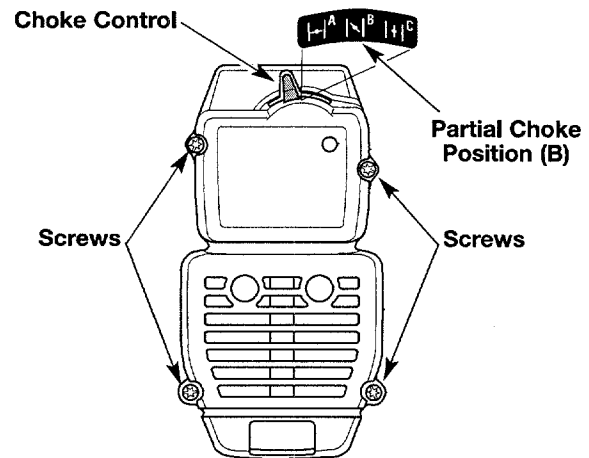

Figure 23
1. Place the choke control in the PARTIAL choke position (B).
**NOTE:** The choke control must be in the PARTIAL choke position (B) to remove the air filter/muffler cover. See Figure 23.
2. Remove the four (4) screws securing the air filter/muffler cover. See Figure 23. Use a flat blade or # T20 Torx bit screwdriver.
**NOTE:** The choke control must be in the PARTIAL choke position (B) to install the air filter/muffler cover. See Figure 23.
9. Insert the four (4) screws into the holes in the air filter/muffler cover and tighten. See Figure 23. Use a flat blade or # T20 Torx bit screwdriver. Do not over tighten. Do not force.